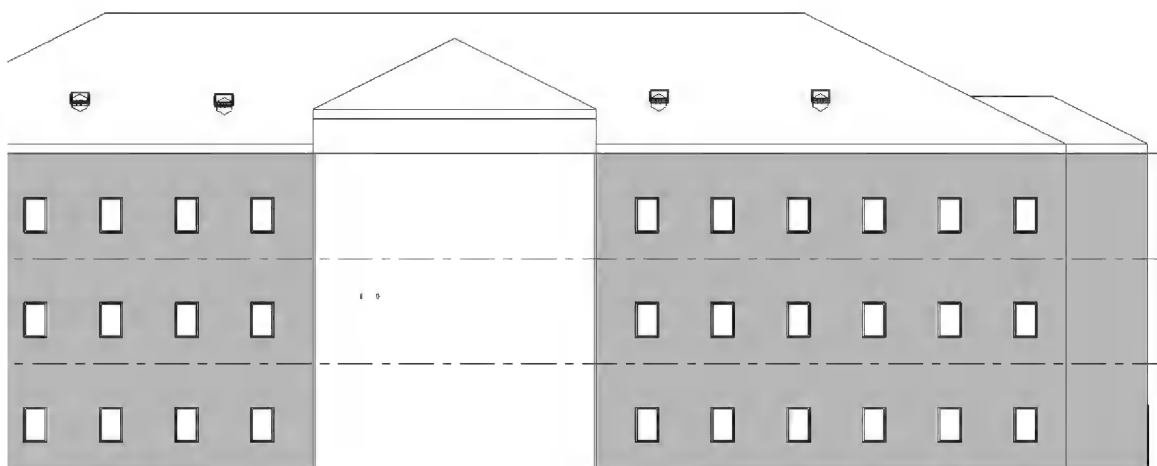

FIGURE 6-2.1 South elevation, skylights added
5. Roughly place four skylights as shown in Figure 6-2.1 on the roof.